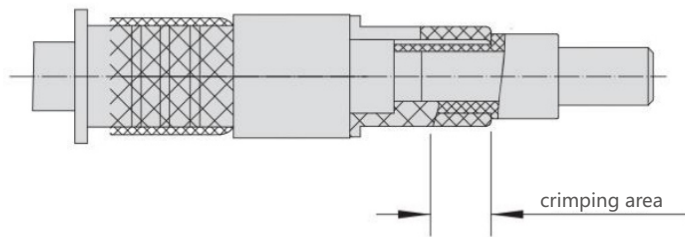

Figure 3.12
- ⑦ As shown in Figure 3.12, use tool M22520/5-01 to crimp the intermediate pin contact, and use punch Y631B (to crimp the intermediate contact onto the white wire).